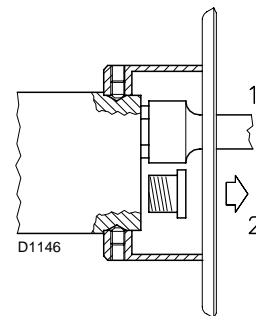

Fig. 13
- Install both nozzles 1)(Fig. 13), after having removed the plastic plugs 2);